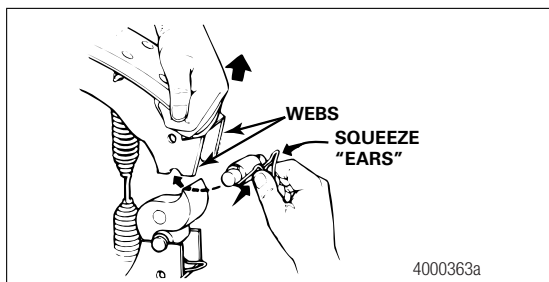

Figure 5.20
- Pull each brake shoe away from the camshaft to enable you to install the brake shoe roller and roller retainer. Press the retainer ears to fit into the retainer between the brake shoe webs. Figure 5.20.